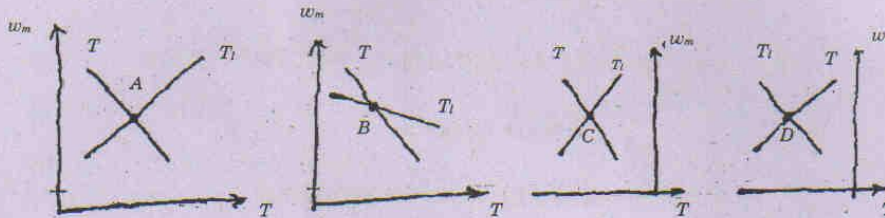

Fig. 11(a) (ii)
11. (a) (i) Derive the mathematical condition for steady state stability of equilibrium point. (6)
- (ii) Based on the mathematical condition, examine the stability equilibrium points given in Fig. 11 (a) (ii). (10)